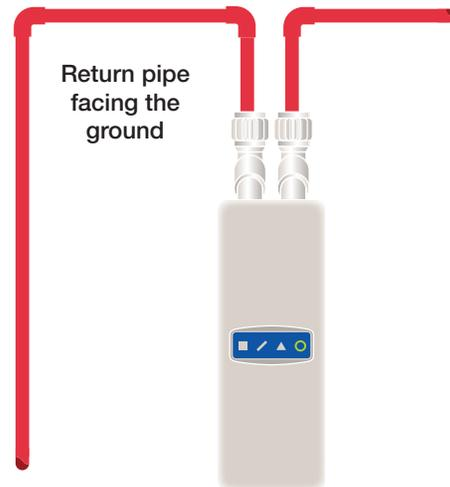

Figure 14. Exhaust pipe orientation to reduce noise
4. To minimize noise, it is recommended to face the outlet pipe towards the ground (Figure 14).